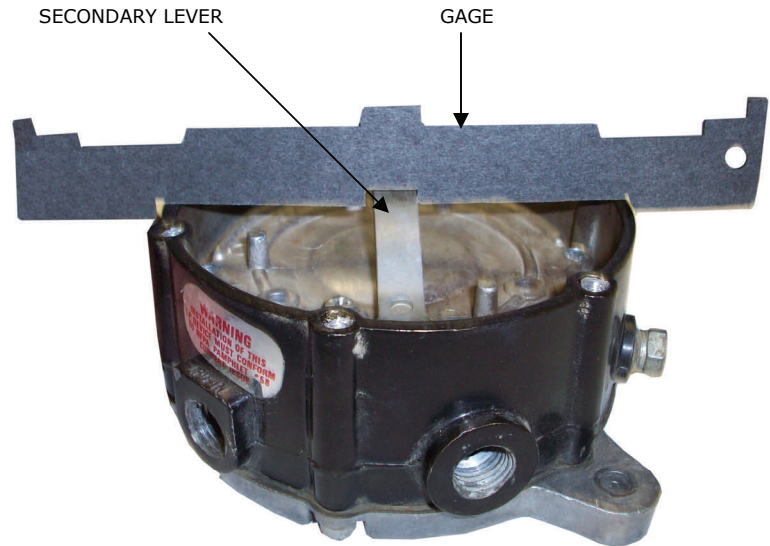

Figure 7
- c. Adjust lever height, .130" to .150" (9/64) above surface of converter body, using gage. (Figure 7)